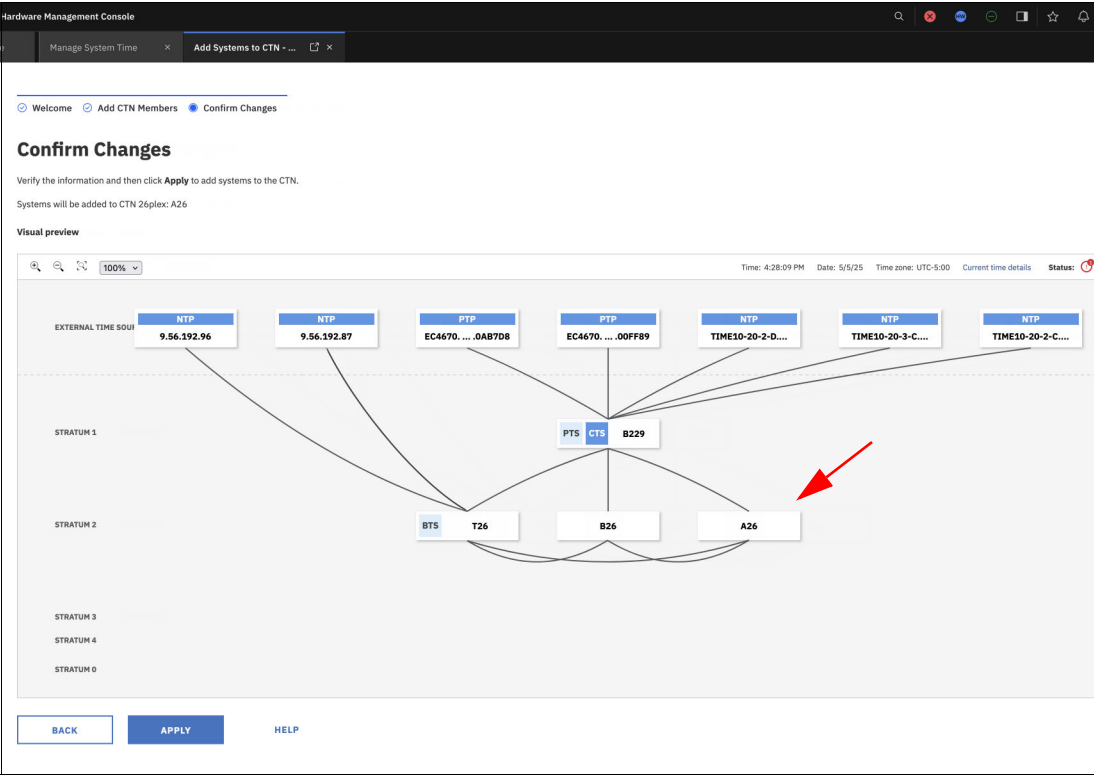

Figure 3-23
3. After selecting the system(s), click **APPLY** and the confirmation menu is displayed, as shown in Figure 3-23.